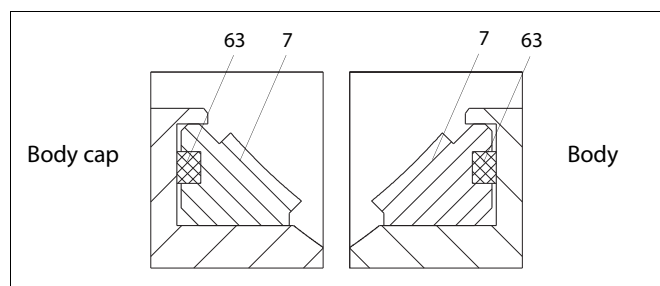

Fig. 24 S seat (2")
- ❑ Place the back seal (63) in the ball seat (7); see Fig. 24. Place the seat in the body (1).